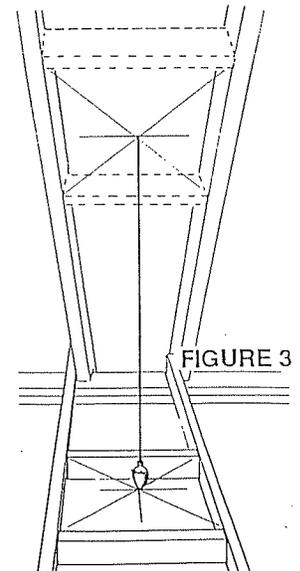

FIGURE 3
3. Hold a plumb bob from the underside of the roof to determine where the opening in the roof should be. Cut and frame the roof opening to maintain proper 1" clearances. FIGURE 3